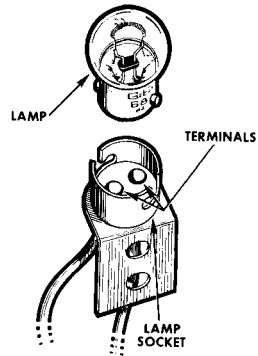

Figure 33 - Light Source Lamp Socket
1. Measured voltage across the two lamp socket terminals should be approximately 10 volts, see figure 33.